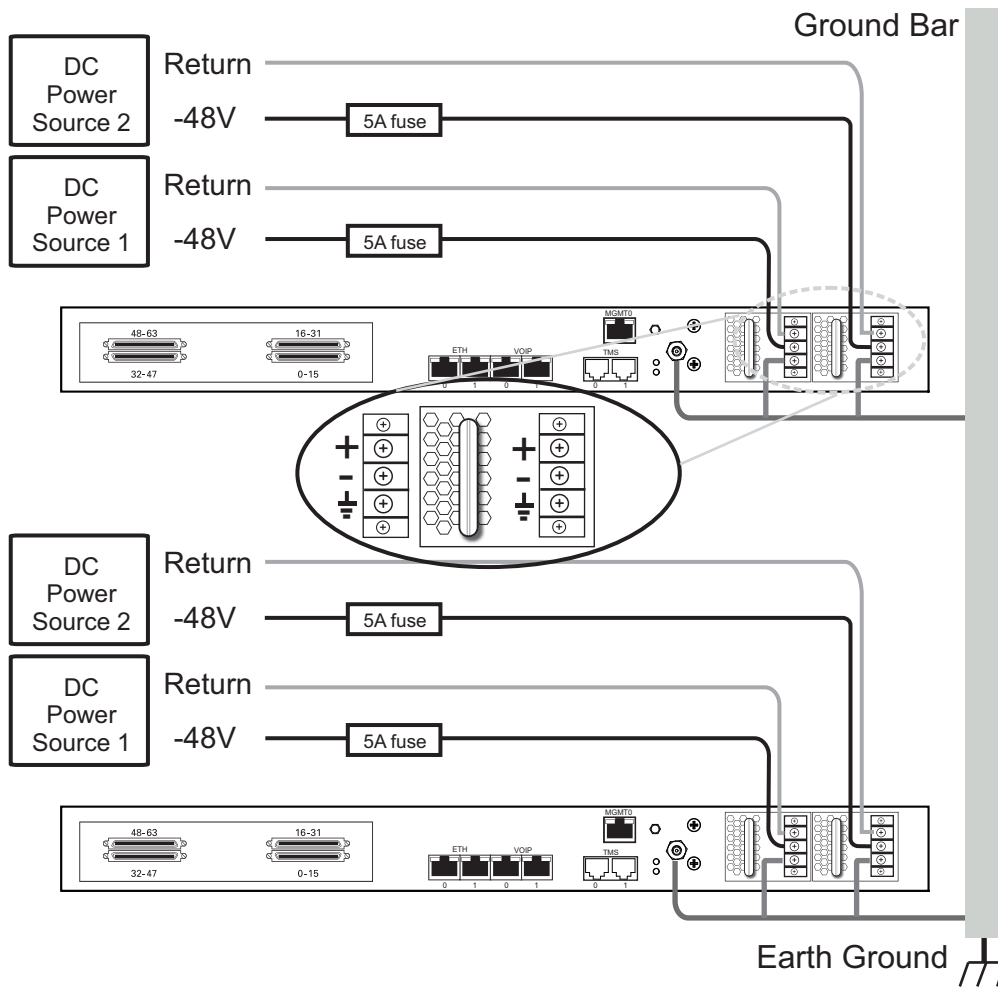

Figure 2.18 3200 Series and 3200 Series +1 DC Power Connections
1. Connect one wire from the positive terminal of the 3200 series gateway to the return side of DC power source one, as shown in Figure 2.18 on page 38.